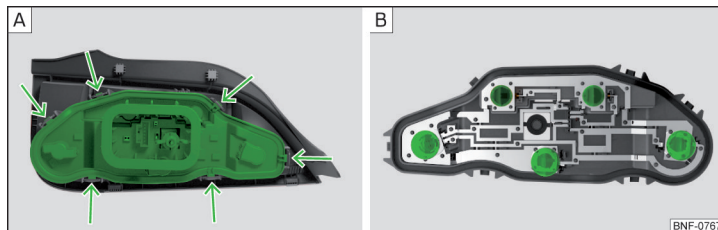

Fig. 180 Inner part of the lamp
- › Press down on the lamp holder » Fig. 180 -  and remove the holder from the lamp.
- › Turn the light bulb **counter-clockwise** to the stop and remove it from the bulb holder » Fig. 180 - .